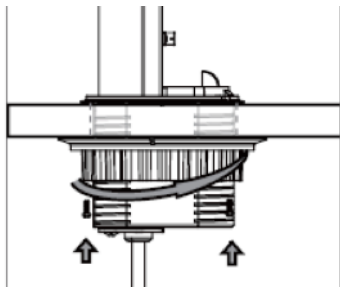

Fig. 2
- Insert the product through the hole, place into the desired orientation, insert the rubber gasket, and tighten the mounting collar to the underside (see Fig. 2)